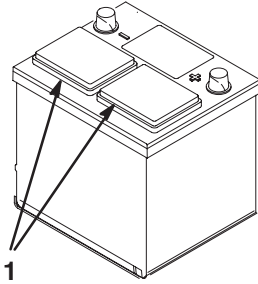

Figure 17
2. Clean the top of the battery and remove the vent caps (Fig. 17).